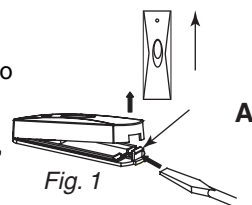

Fig. 1
To open the front cover carefully insert a flat bladed screw driver, into the slot and twist gently (A). When refitting the front cover to ensure the weather proofing is maintained, always mount the bell push in the upright position and replace the cover securely. Fig. 1